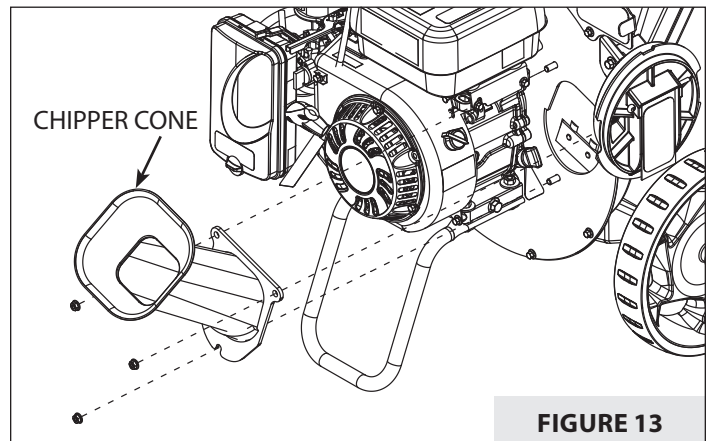

FIGURE 13
2. Remove the nuts securing the chipper cone to the front of the chipper. Remove the chipper cone to access the knives. **SEE FIGURE 13.**